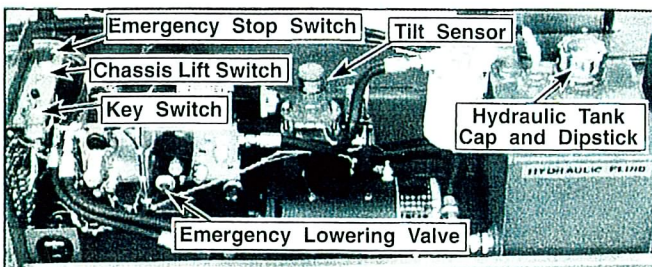

Figure 1: Chassis Control Module
2. Check the level of the hydraulic oil with the platform fully lowered. Oil should be visible on the dipstick (Figure 1). Add ISO #46 hydraulic oil if necessary.
9. Turn Chassis and Platform Emergency Stop Switches ON (Figure 1) by pulling the button out.
10. Turn the Chassis Key Switch (Figure 1) to **CHASSIS**.
11. Push Chassis Lift Switch (Figure 1) to **UP** position and fully elevate platform.
13. Check Level Sensor (Figure 1) operation by pushing the Chassis Lift Switch to **LIFT** while another person pushes the sensor off of level, the alarm should sound.
15. Open the Chassis Emergency Lowering Valve (Figure 1) to check for proper operation by pushing in on the knob and turning 1/4 turn counterclockwise. Once the platform is fully lowered, close the valve pushing in on the knob and turning 1/4 turn clockwise until the detent engages.
Ask a person on the ground to open the Emergency Lowering Valve (See Figure 1) to lower the platform. This valve is located through the cutout in the Chassis Module cover on the left hand side of the chassis.